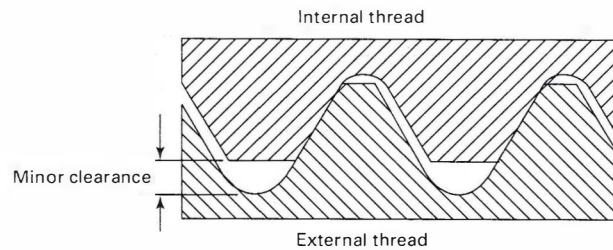

Fig. 37 Minor Clearance
**minor clearance:** the radial distance between the crest of the internal thread and the root of the external thread of the coaxially assembled design form of mating threads (see Fig. 37).